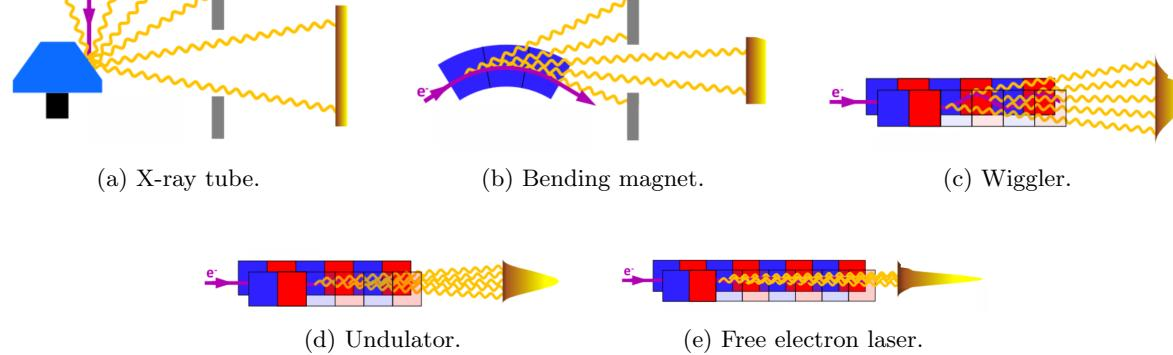

Figure 2.17: Making uniform X-rays.
- See Figure 2.17 for schematics of all of these.